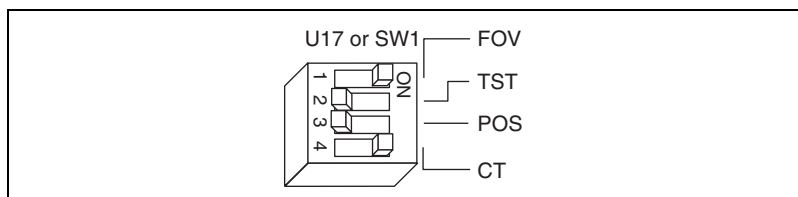

Figure C-2. Restoring the Factory Configuration
3. Change switch 1 (FOV) on U17 (SW1 on the PCI-MXI-2 Universal) to the ON position as shown in Figure C-2 to restore the factory configuration.